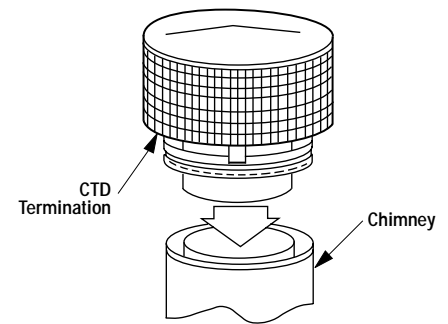

Figure 31
1. Hold the CTD over top of last chimney section (Figure 31).